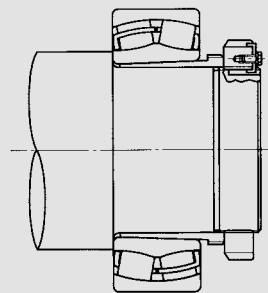
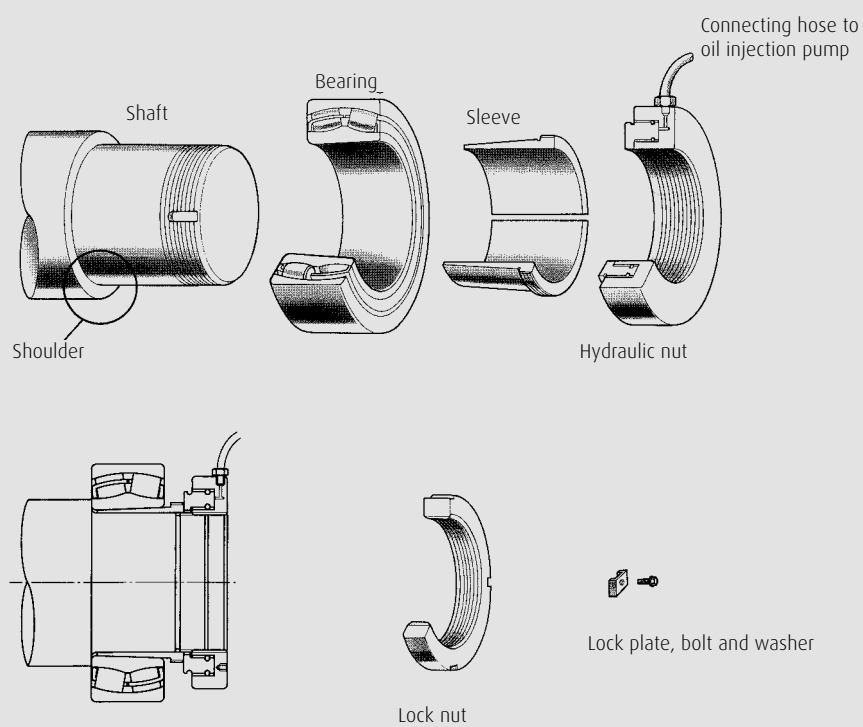

Fig. 6.17 Assembly view
Fig. 6.18 Hydraulic nut method
b) Hydraulic nut method (Fig. 6.17 and Fig. 6.18)